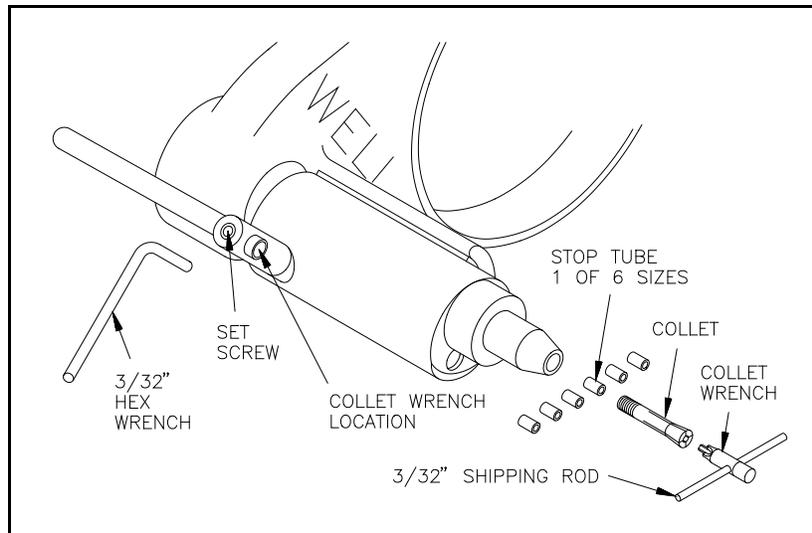

Figure 4.
- 6.2.2 Use a 3/32" hex wrench to loosen the set screw that holds the handle and remove the collet wrench. See Figure 4.